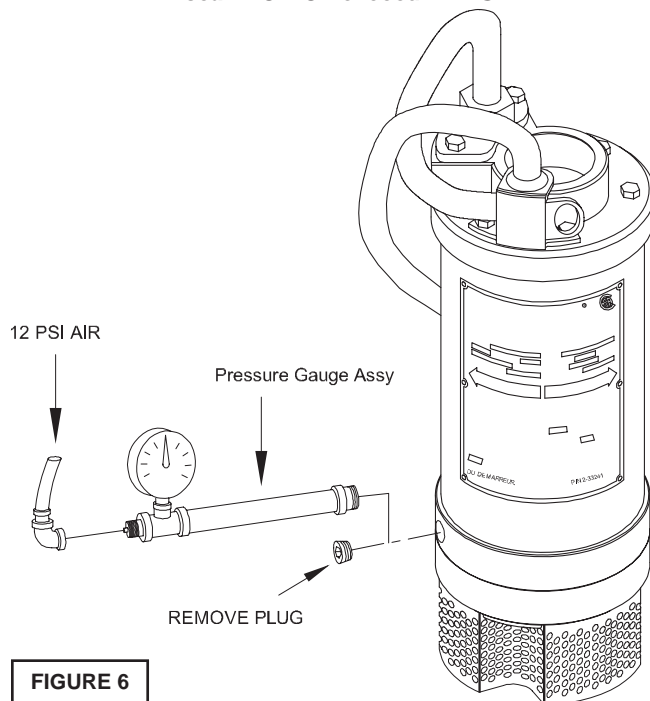

FIGURE 6
Remove pipe plug (18) from diffuser (9) and check that the seal chamber is of the correct amount of oil (See Figure 6). Apply pipe sealant to pressure gauge assembly and tighten into hole in Intermediate diffuser (9). Pressurize seal chamber to 12 P.S.I. and check for leaks. If after five minutes, the pressure is still holding constant, and no leaks are observed, slowly bleed the pressure and remove the gauge assembly. Replace the pipe plug (18) using a sealant. If the pressure does not hold, then the leak must be located and repaired.